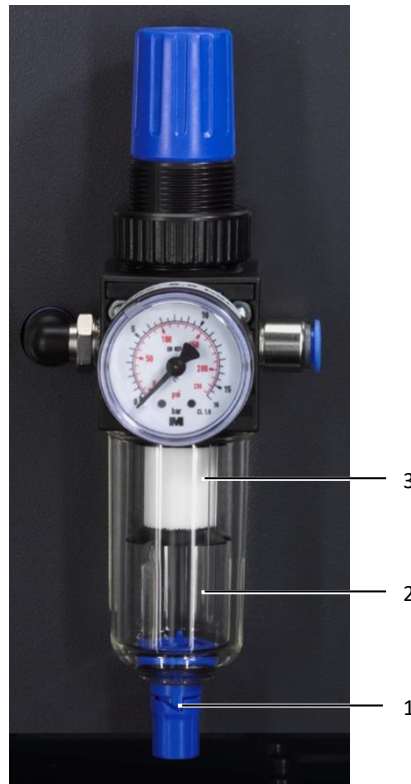

Fig. 29: Compressed air maintenance unit
- To drain the condensate, press the drain plug (fig. 29, item 1) upwards.
- To replace the filter, unscrew the condensate container (fig. 29, item 2) and screw out the filter (fig. 29, item 3).